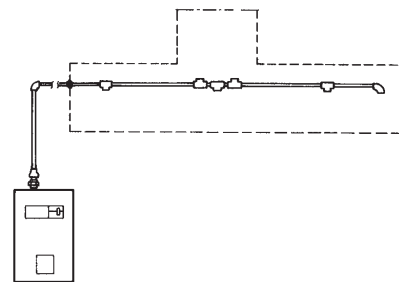

FIGURE 5-7
2. Based on the piping sketch developed in the *System Design* section of this manual, install the supply line and position the tees at points where branch lines must be installed. See Figure 5-7.